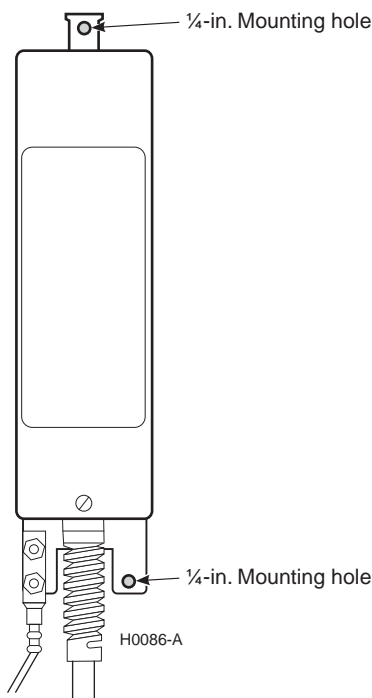

Figure 3. Mounting Hole Locations (Front View)
- 2 Place the HRE-602 in the mounting location, then mark the mounting hole locations with a pencil. Figure 3 shows the mounting hole locations on the enclosure.